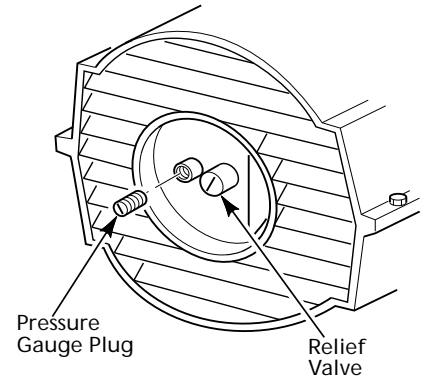

Figure 15 - Pressure Gauge Plug Removal
1. Remove pressure gauge plug from filter end cover (see Figure 15).